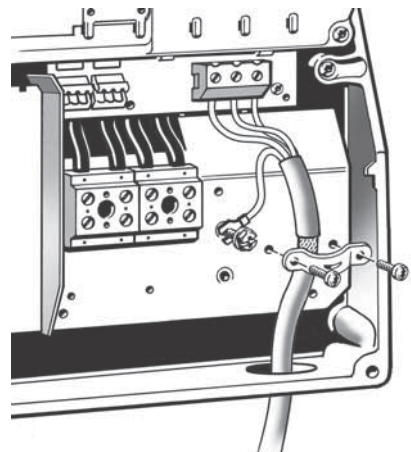

Fig. 15 Motor connection, B1 and B2
1. Connect the earth conductor to terminal 99 (PE). See fig. 15.
2. Connect the motor conductors to the terminals 96 (U), 97 (V), 98 (W).